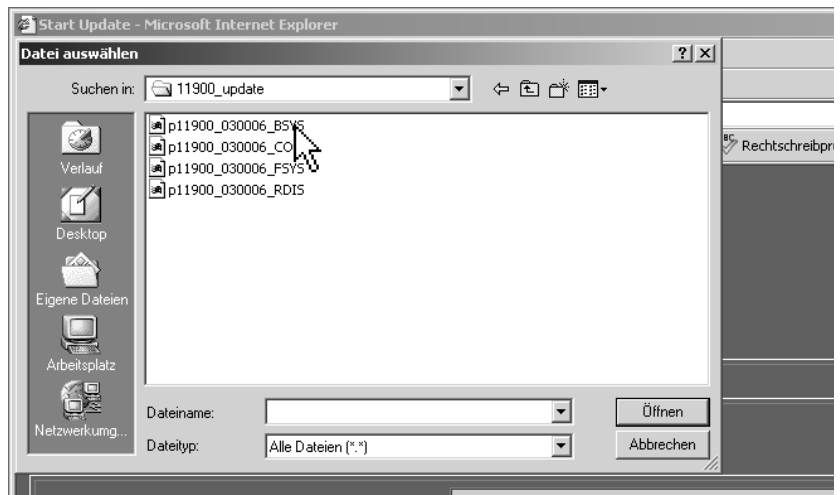

Fig. 8-4: The update file selection dialog box
4. Use the displayed dialog to select the directory path where you have stored the **four** update files. Select the file **p11900\_XXXXX\_BSYS** first (see Fig. 8-4). XXXXXX represents the current software version code (also see Chapter 6.4 for details).